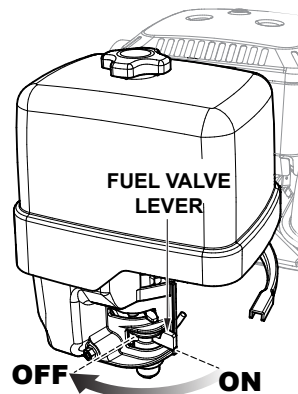

Figure 18. Engine Fuel Valve Lever (OFF)
3. Place the **engine fuel valve lever** (Figure 18) in the **OFF** position.